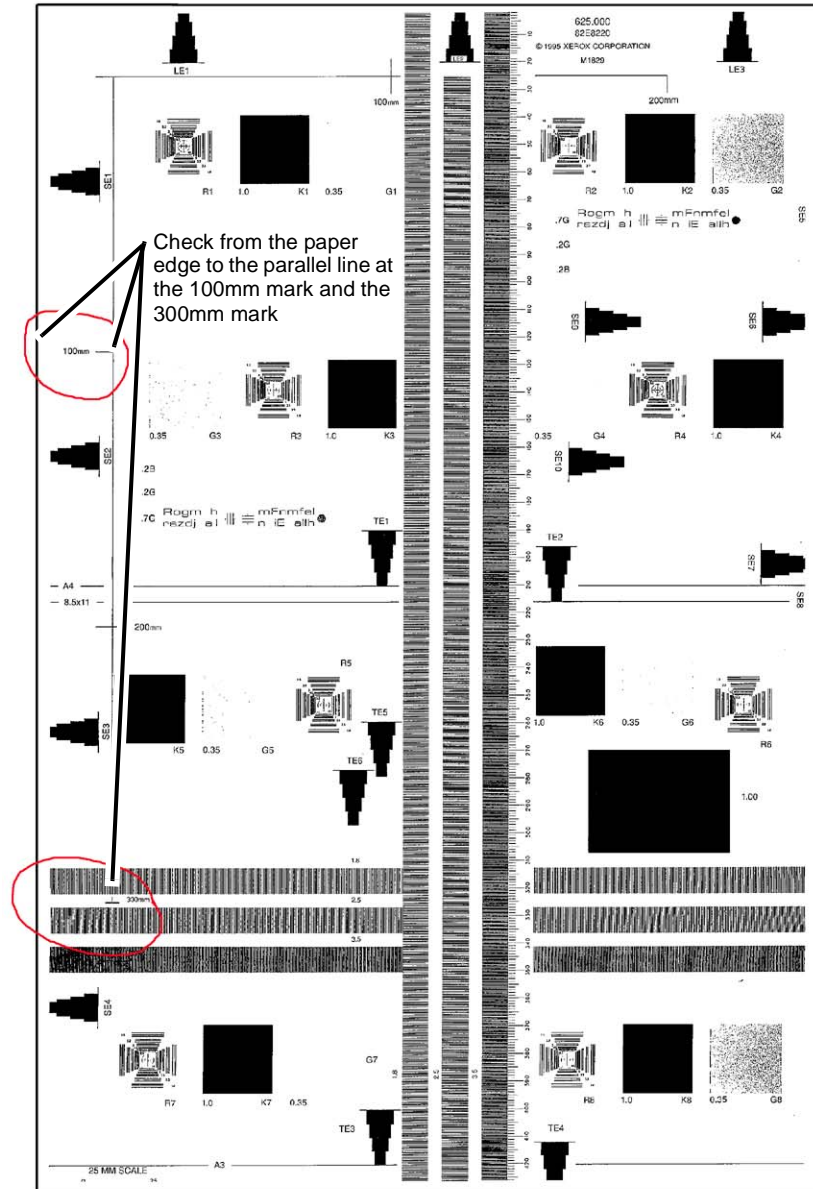

Figure 1 Checking the Skew
5. Check that the difference in the distance between the side and the Edges at the 100mm mark and the 300mm mark in the 3 copies is within 0.5mm. (Figure 1)